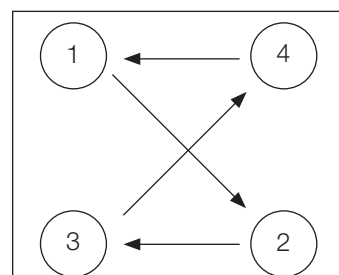

Figure 50
- Tighten the 4-Bolts. Step by step to avoid damaging the seals (**Fig. 50**).